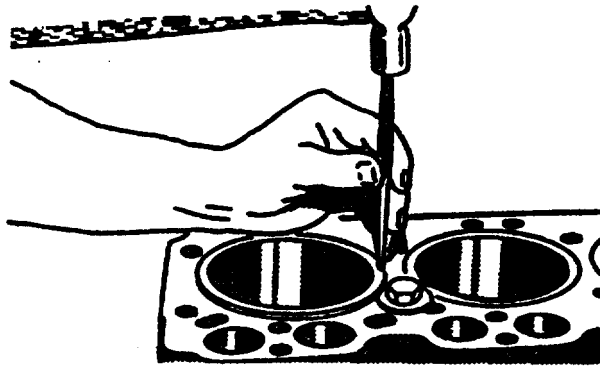
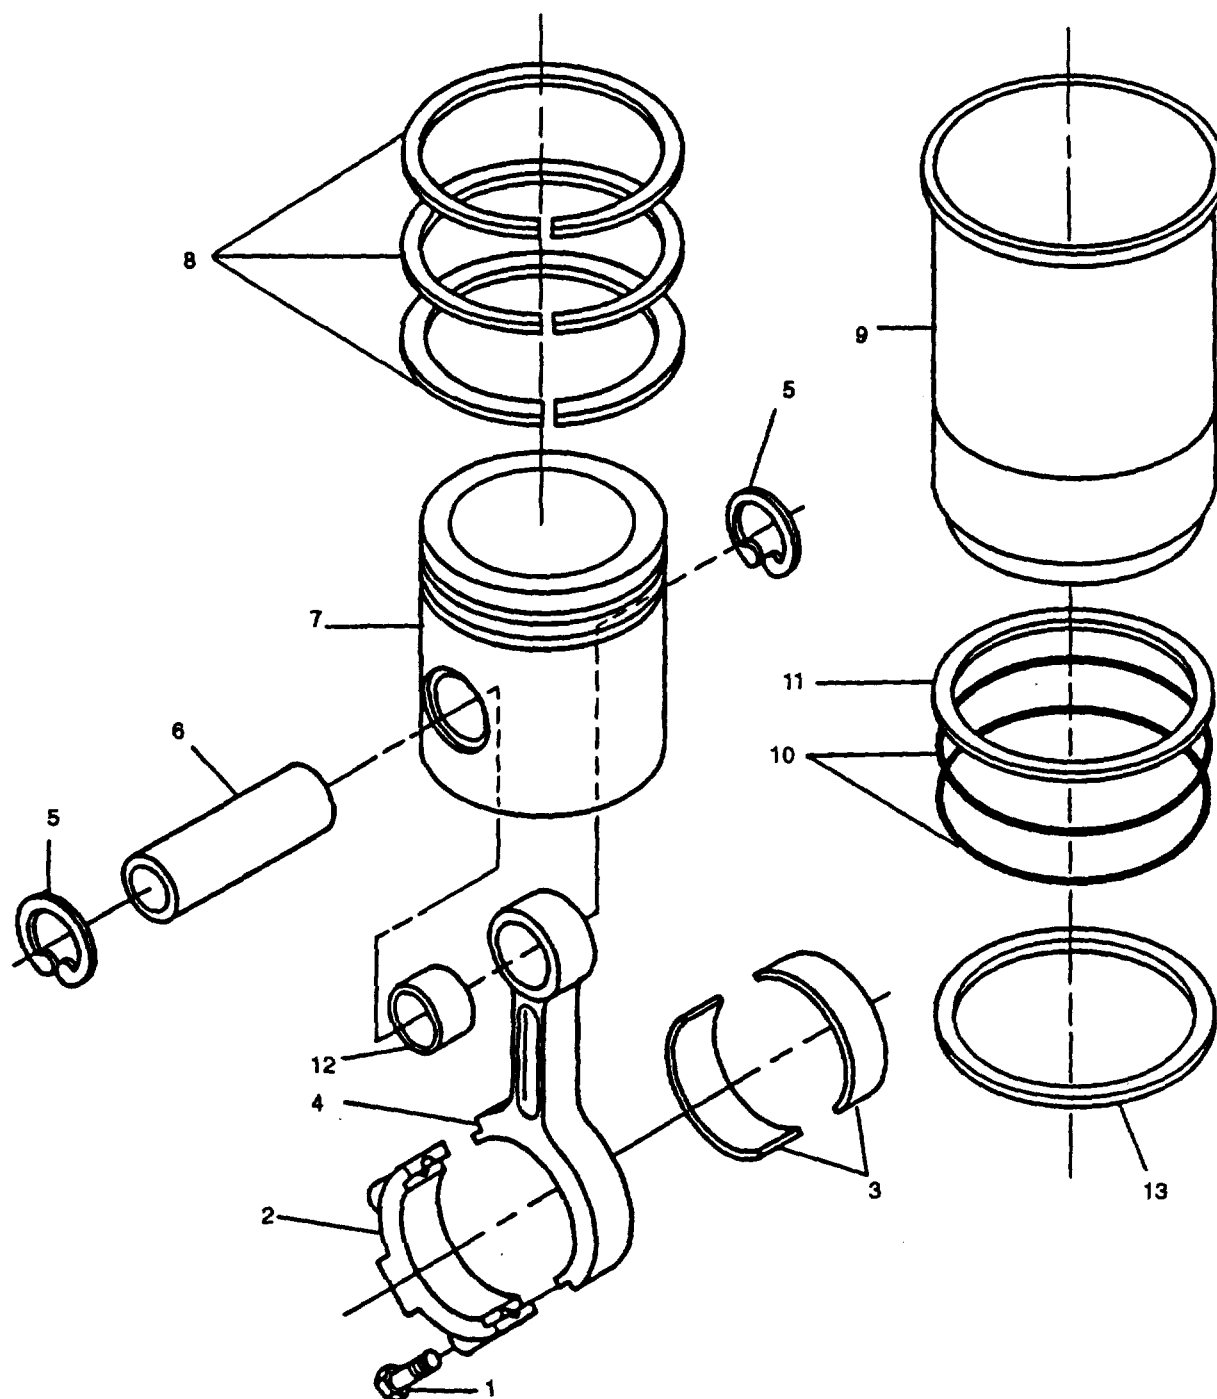
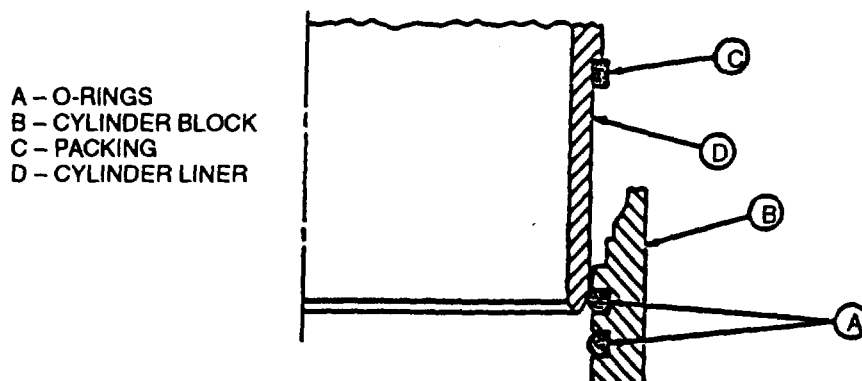
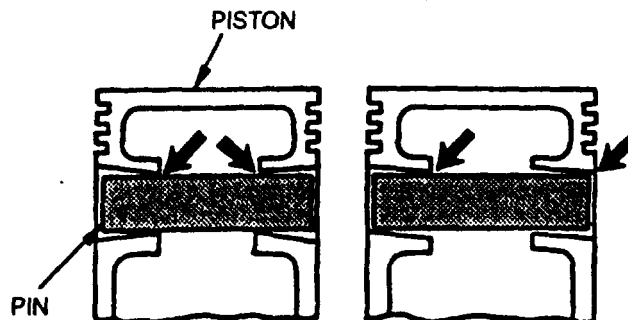

FIGURE 3-123. Marking Cylinder Liners
FIGURE 3-124. Pistons, Connecting Rods, and Cylinder Liners
FIGURE 3-126. Cylinder Liner O-Rings and Packing
FIGURE 3-130. Checking Piston Pin Clearance
Keep bearing inserts (3, FIGURE 3-124) with their respective rods (4) and caps (2). Mark rods (4), pistons (7), and caps (2) to ensure correct assembly in same location.
- l. Remove bolt (1) securing bearing cap (2) to connecting rod (4); remove cap (2) and bearing inserts (3).
c. Number cylinder liners (9, FIGURE 3-124) and pistons (7). Stamp front of liner to assure correct assembly. Do not stamp liner flange; stamp on fire dam only (raised part of liner), refer to FIGURE 3-123.
Each cylinder liner (9, FIGURE 3-124) must be reinstalled in cylinder bore from which it was removed. Always keep matched pistons and liners together.
- e. Remove cylinder liner O-rings (10, FIGURE 3-124) from grooves in engine block. Also remove packing (11) from cylinder liner (9), refer to FIGURE 3-126. Discard -rings and packing.
- a. Remove piston rings (8, FIGURE 3-124) from piston (7) using piston ring expander. Discard piston rings.
- b. Remove two retaining rings (5) and remove piston pin (6). Discard retaining rings.
- c. Separate piston (7) and rod (4). Keep these parts in place with their respective cylinder liner (9).
- p. Install pin (6, FIGURE 3-124) through piston.
- (1) Pin should pass through piston using only light thumb pressure.
- (2) Check taper in piston pin bore by inserting pin from both sides, refer to FIGURE 3-130. If pin enters freely, but binds in center, bore could be tapered. If bore is not tapered, insert pin to check for bore alignment. Pin should not click or need to be forced into bore on opposite side.